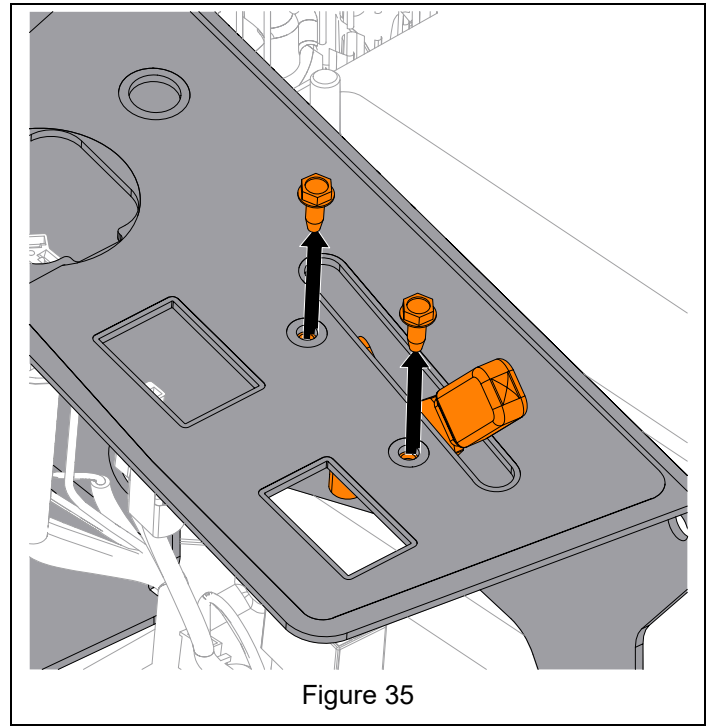

Figure 35
7. Remove two tapping screws securing throttle control lever. See Figure 35.